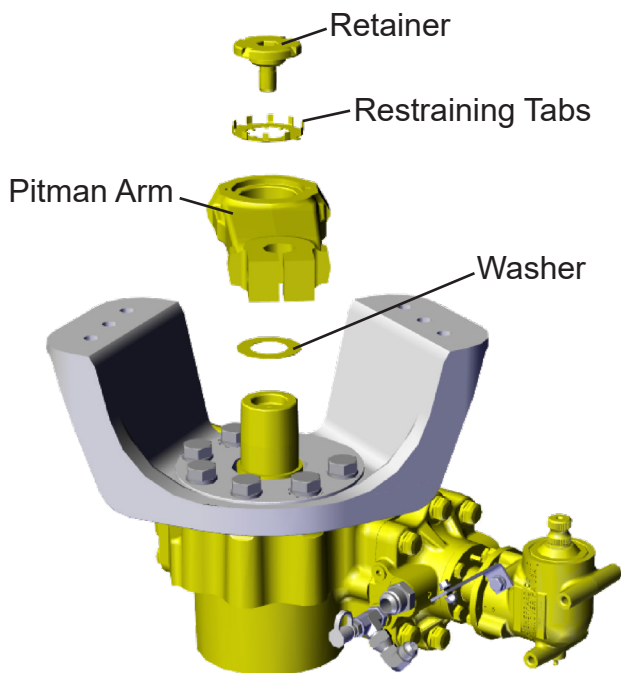

Figure 9
23. Install washer on sector shaft. See Figure 9.
24. Install pitman arm on steering gear. Align timing mark on steering shaft with pitman arm timing mark labeled "F" when pitman arm is installed. See Figure 9.
26. Install tab washer. See Figure 9.
27. Install retainer and final tighten to 550 ft. lbs. using a torque wrench. See Figure 9. Do not use an impact wrench to final tighten retainer.